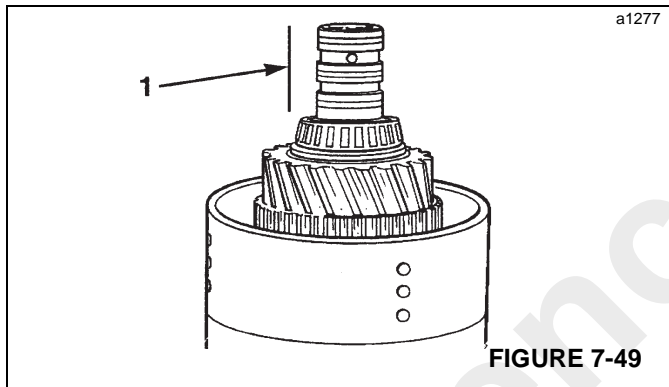

FIGURE 7-49
- Carefully, remove piston ring seals (1, Figure 7-49).